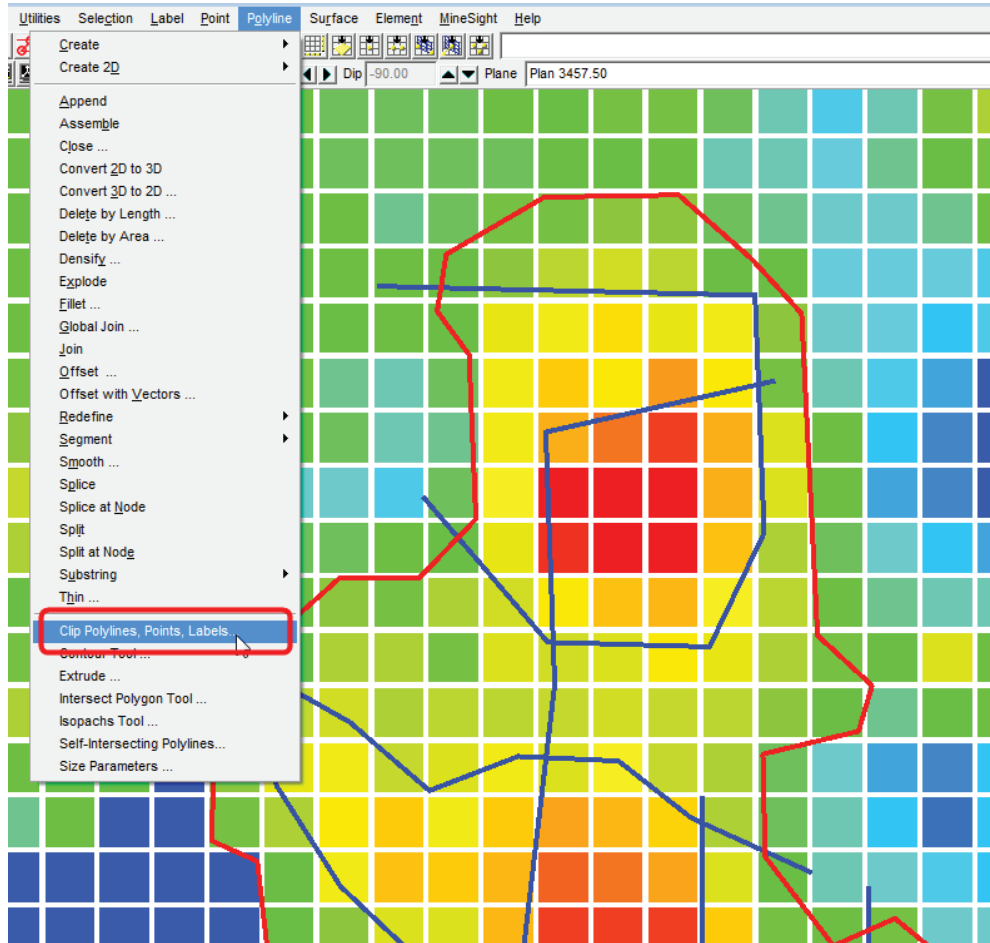

Figure 5. **Clip Polylines** is under the **Polyline** menu.
3. Open the **Clip Polylines** function from the **Polyline** menu as shown in Figure 5.